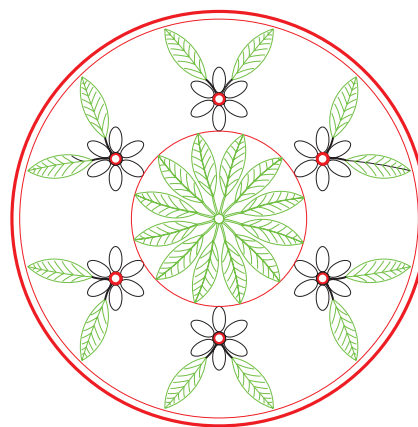

Fig. 10.7 Example – DXF file. Drawing to be saved as a dxf file
1. Open a drawing in AutoCAD. This example is shown in Fig. 10.7.